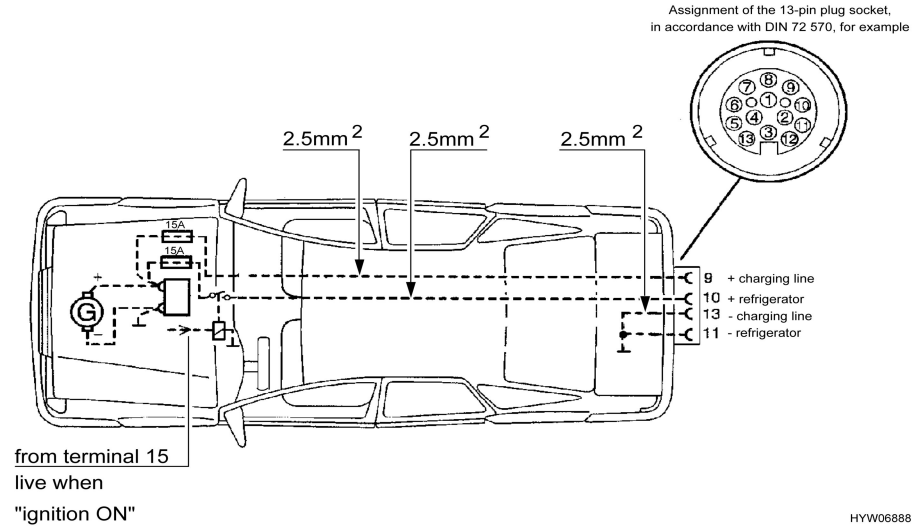

Fig. 66 Towing vehicle installation diagram (Power Pack SE)
- ▷ The towing vehicle must be retrofitted with the corresponding cable cross sections and a relay for the power supply (controlled using the ignition) (see Fig. 66).